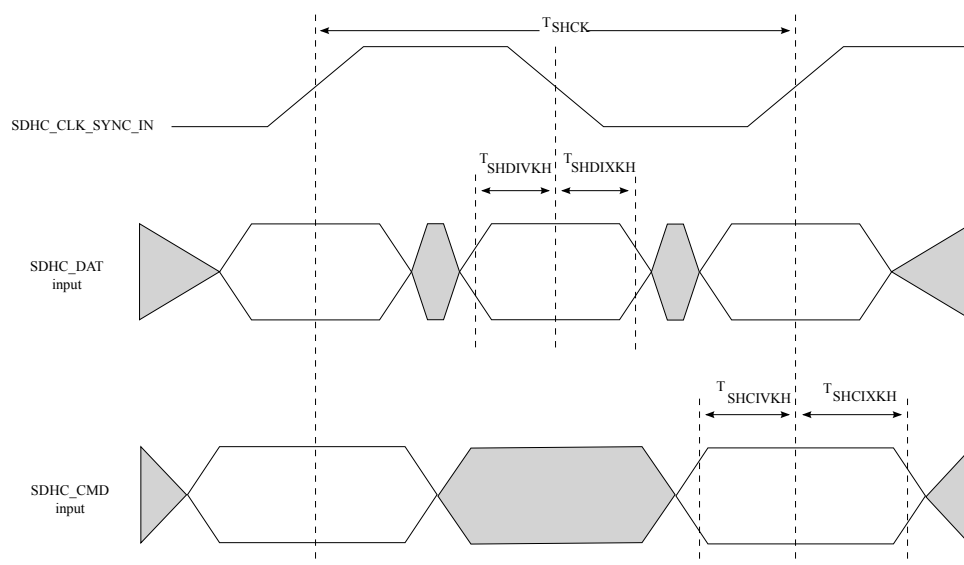
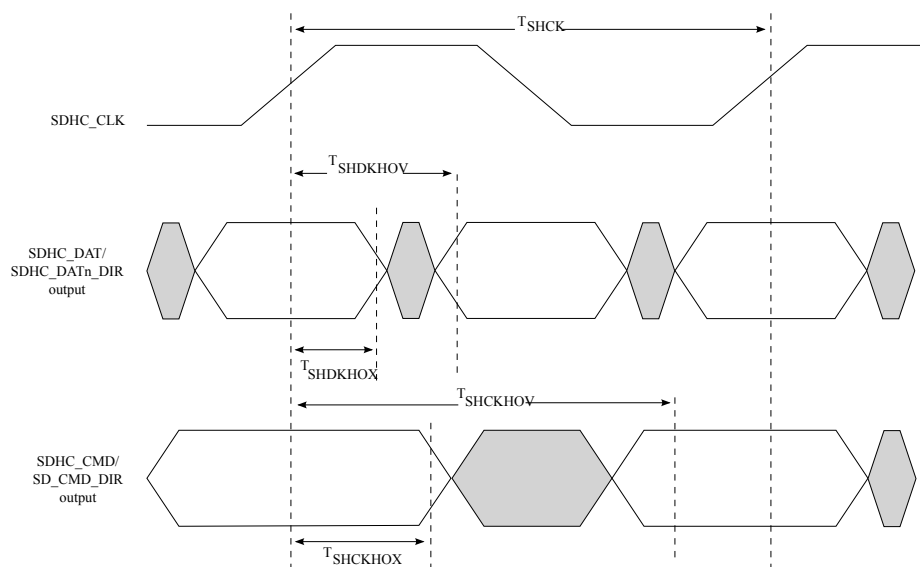

Figure 22. eSDHC DDR50/DDR mode input AC timing diagram
Figure 23. eSDHC DDR50/DDR mode output AC timing diagram
3. The symbols used for timing specifications herein follow the pattern of t_{(first two letters of functional block)(signal)(state) (reference)(state)} for inputs and t_{(first two letters of functional block)(reference)(state)(signal)(state)} for outputs. For example, t_{SHCKHOX} symbolizes eSDHC highspeed mode device timing (SH) clock reference (K) going to the high (H) state, with respect to the output (O) reaching the invalid state (X) or output hold time. Note that in general, the clock reference symbol is based on five letters representing the clock of a particular functional. For rise and fall times, the latter convention is used with the appropriate letter: R (rise) or F (fall).
4. See Figure 22.
5. See Figure 23.
1. $C_L = C_{BUS} + C_{HOST} + C_{CARD} \leq 20$ pF for MMC, ≤ 25 pF for Input Data of DDR50, ≤ 30 pF for Input CMD of DDR50. 2. The symbols used for timing specifications herein follow the pattern of $t_{(first\ two\ letters\ of\ functional\ block)(signal)(state)\ (reference)(state)}$ for inputs and $t_{(first\ two\ letters\ of\ functional\ block)(reference)(state)(signal)(state)}$ for outputs. For example, $t_{SHCKHOX}$ symbolizes eSDHC highspeed mode device timing (SH) clock reference (K) going to the high (H) state, with respect to the output (O) reaching the invalid state (X) or output hold time. Note that in general, the clock reference symbol is based on five letters representing the clock of a particular functional. For rise and fall times, the latter convention is used with the appropriate letter: R (rise) or F (fall). 3. See Figure 22. 4. See Figure 23. 5. Board skew: -0.2 to 0.2 ns